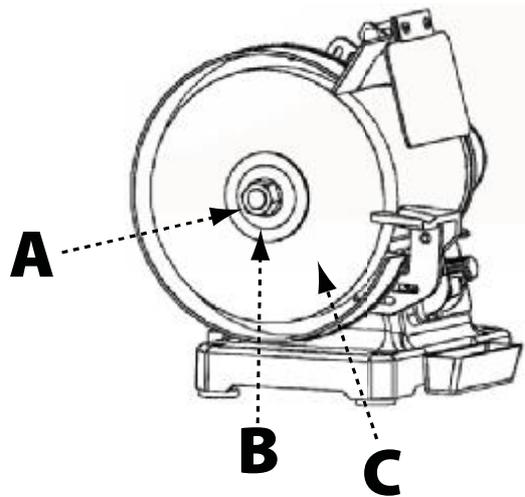

FIGURE 9
4. Remove the arbor nut (A), wheel flange (B), and old grinding wheel (C), as shown in Figure 9.